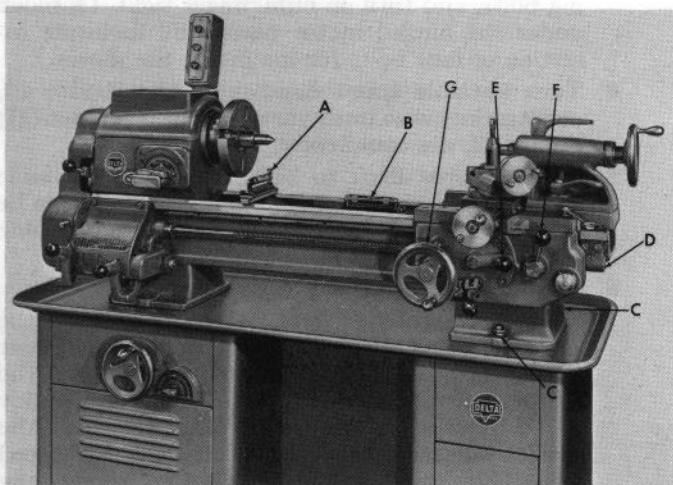

Figure 2
2. Place a level squarely across V-ways at (A) Figure 2.
5. Adjust shims under cabinet at tailstock end until bubble comes to rest at the same position as when level was at (A) Figure 2.
6. Place level as shown in (B) Figure 2, and shim until bubble is approximately centered.
7. Repeat steps 3, 4, 5 and 6 until level readings at (A), (B) and tailstock Figure 2 are approximately the same.